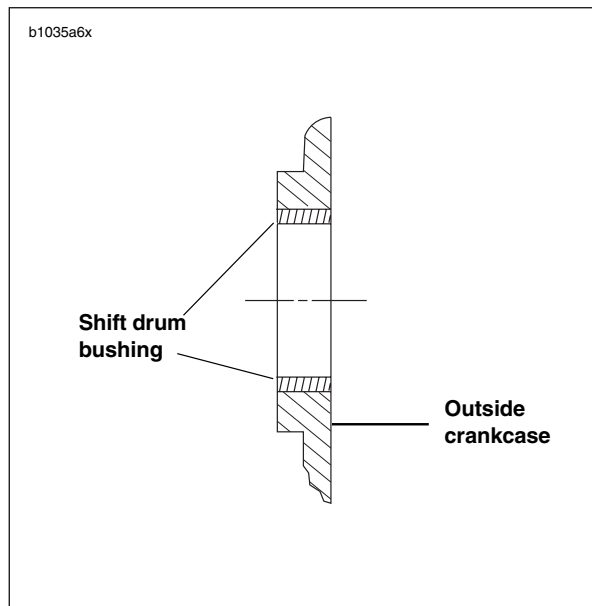

Figure 6-86. Shift Drum Bushing Assembly
2. See Figure 6-86. Lay bushing squarely over bore. Using a pressing tool larger than diameter of bushing, press bushing into bore until bushing contacts shoulder in left crankcase half. If using a pressing tool larger than diameter of bushing, the pressing tool will bottom against crankcase when bushing is flush with top surface.